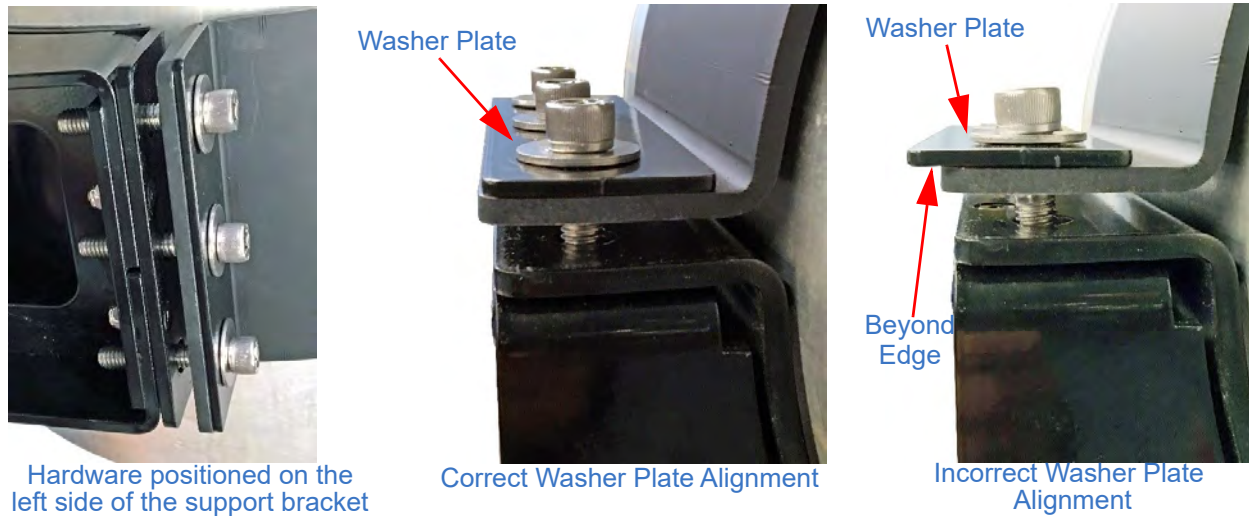

Figure 5-7 Hardware Positioning and Alignment
- c. On the left side of the external support bracket, align the hardware from outside in as follows (Figure 5-7):
- d. The washer plate should be aligned so that its outside edge is flush with the outside edge of the support bracket clamp (Figure 5-7). If the outside edge sticks out beyond the edge of the support bracket clamp (Figure 5-7), it is installed backwards and needs flipped.